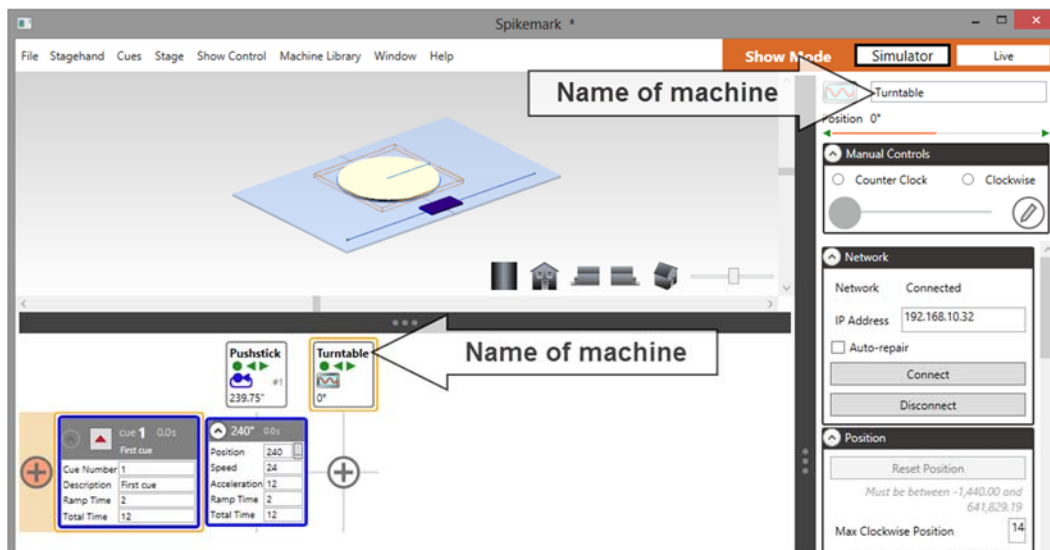

Figure 35
7. Before we move on to the next section and write some more cues, let's take a second to rename our new turntable. Rather than use the name *Revolver*, let's label it *Turntable*. Click on the name in the **Stagehand Editor** and change the name to *Turntable* and then press the Tab key to finish editing. You'll see that the name updates in the **Cue Grid** to read *Turntable* (Figure 35).